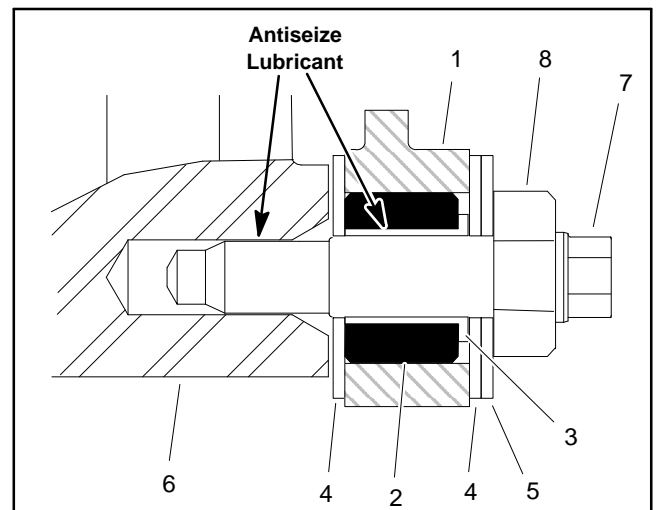

Figure 20
1. If rubber bushing was removed from either cutting unit side plate, install a new bushing. The bushing should be installed flush with the inside of the side plate (Fig. 20).
2. If removed, install the flange bushings (item 15) with flange facing outward. Apply antiseize lubricant to inside of flange bushing.
4. Slide one metal washer (item 17) and one plastic washer (item 16) onto each bedbar pivot bolt.
5. Position bedbar into cutting unit. Make sure that the top of each bedbar arm is between washer (item 11) and adjuster screw flange (item 10).
6. Position a plastic washer (item 16) between bedbar and each cutting unit side plate (Fig. 20).
8. Tighten both lock nuts (item 19) until outside metal washer just stops rotating. Do not over tighten the lock nuts as this can distort the side plates and affect reel bearing adjustment. The plastic washer between the bedbar and side plate should be loose.
9. Tighten the lock nut (item 13) on each bedbar adjuster assembly until the adjuster spring is fully compressed, then loosen lock nut 1/2 turn.